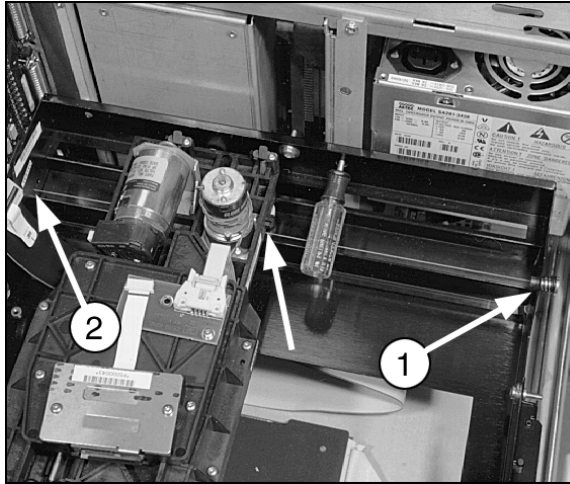

Figure 5-24. Detensioning and Removing Translate Rope
4. Push the translate cable tensioner plug in towards the translate frame to release tension on the picker translate rope (Figure 5-24 (1)). (This plug is on the power supply side of the translate frame). At the same time pull the opposite end of the translate rope out of its slot in the other side of the translate frame (Figure 5-24 (2)).
5. Place the end of the rope just removed from the translate frame into the rope holder (notch) on the side of the picker to prevent that rope end from being pulled completely off the horizontal motor pulley. The location of this notch is indicated by the center arrow on Figure 5-24.